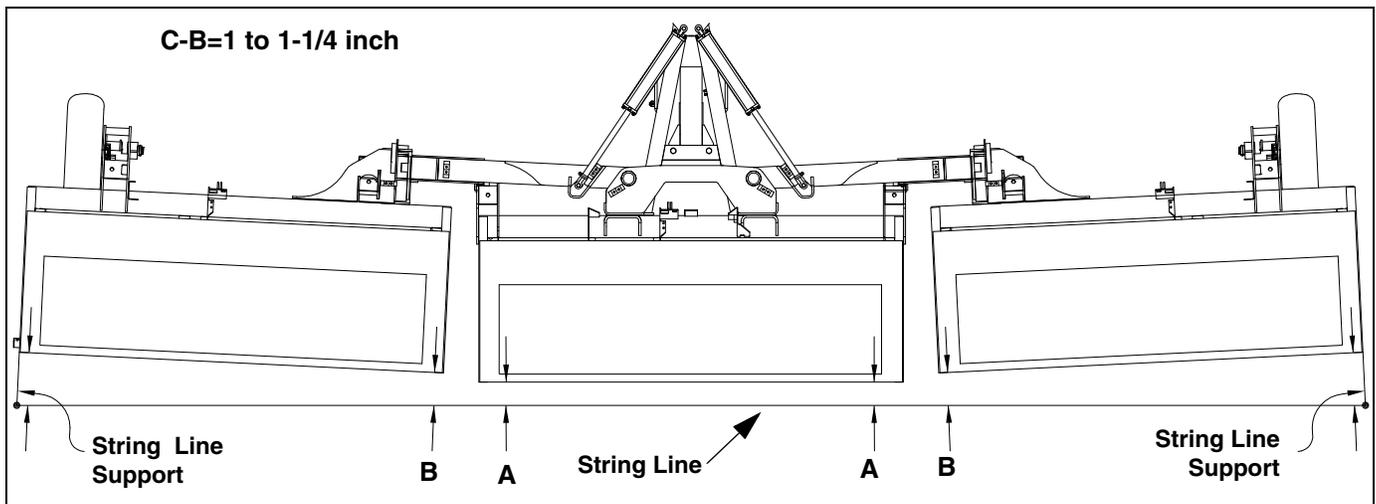

Figure 36
3. Check for proper alignment by running a string line across back of drill toward outer ends of wings. For proper alignment, outside ends of boxes should be about 1 inch to 1-1/4 inch ahead of inside ends. See Figure 36.